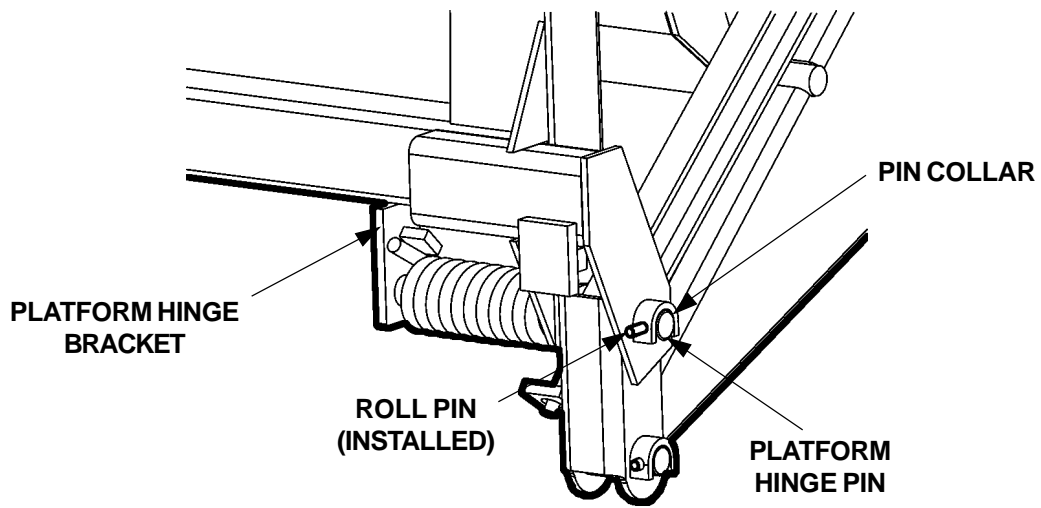

FIG. 7
5. Drive Platform Hinge Pin into correct position through the Platform Hinge Bracket with a hammer and pin punch as shown in **(FIG. 7)**. Line up the hole in the Platform Hinge Pin with the hole in the Pin Collar. Install the roll pin through the Pin Collar until roll pin protrudes equally from both sides of the collar **(FIG. 7)**.